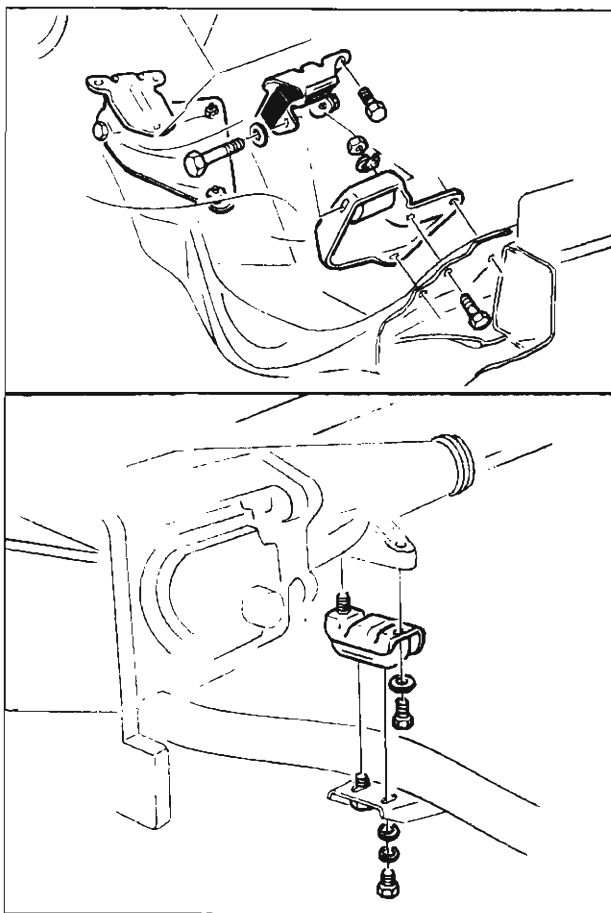

Fig. 19V—Engine Mounts (Chevelle)
**Chevelle (Fig. 19V)****Front Mount Replacement**